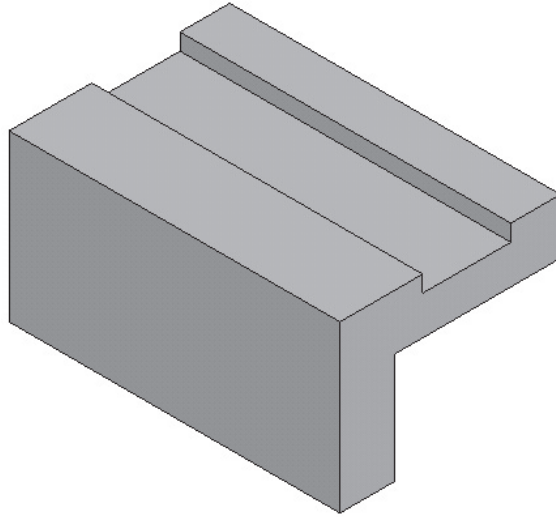

Figure 4-57 Base feature of the model
- a. Create the base feature on the right plane, refer to Figure 4-57.
6. Choose **Return** from the ribbon bar. The base feature of the model is shown in Figure 4-57.